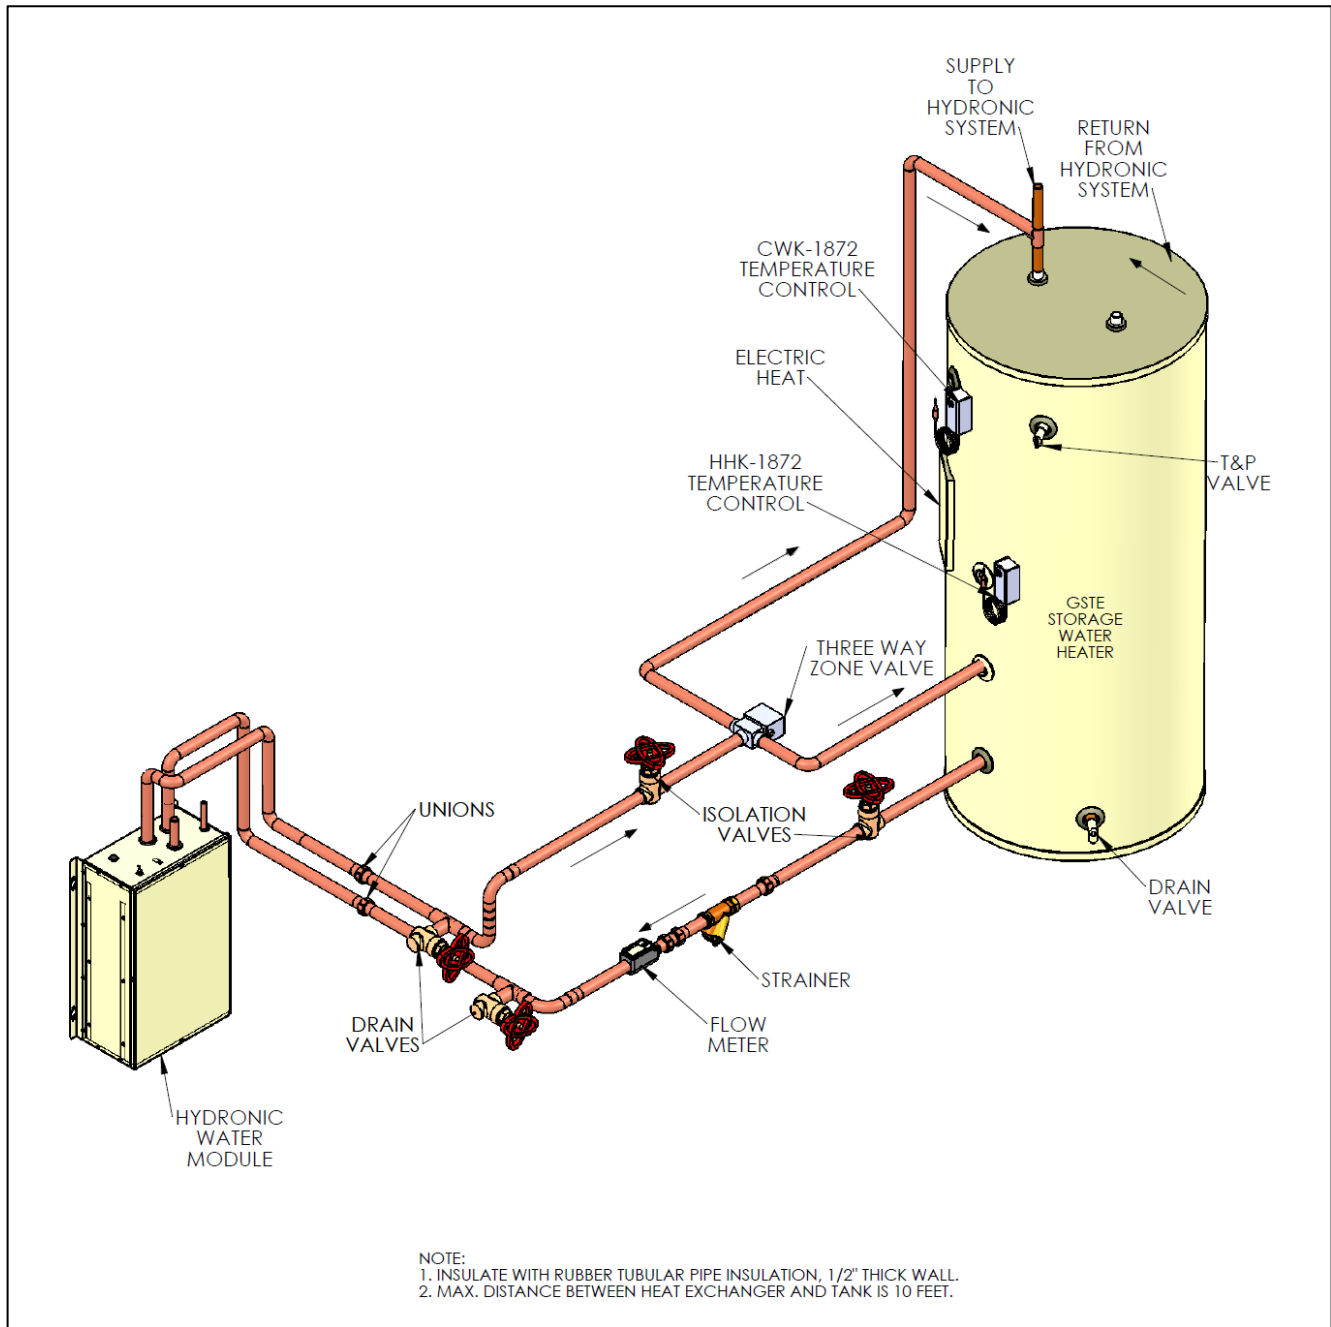

Figure 11c. Typical SD(A) Primary Hydronic Circuit Plumbing
A typical primary hydronic plumbing circuit for an SD(A) system is illustrated in Figure 11c.
The heat exchanger must be isolated from the water system when the system undergoes a “superchlorination” or “shock chlorination” flushing process. Closing the isolation valves as shown in Figure 11c prior to initiating the system flushing process isolates the heat exchanger. The water entering the heat exchanger after the system flushing must not exceed a chlorine level consistent with the local municipal water purification standards. Failure to isolate the heat exchanger will damage the heat exchanger causing system failure. Allowing highly chlorinated water to enter the heat exchanger will void the EarthLinked® Limited Warranty.